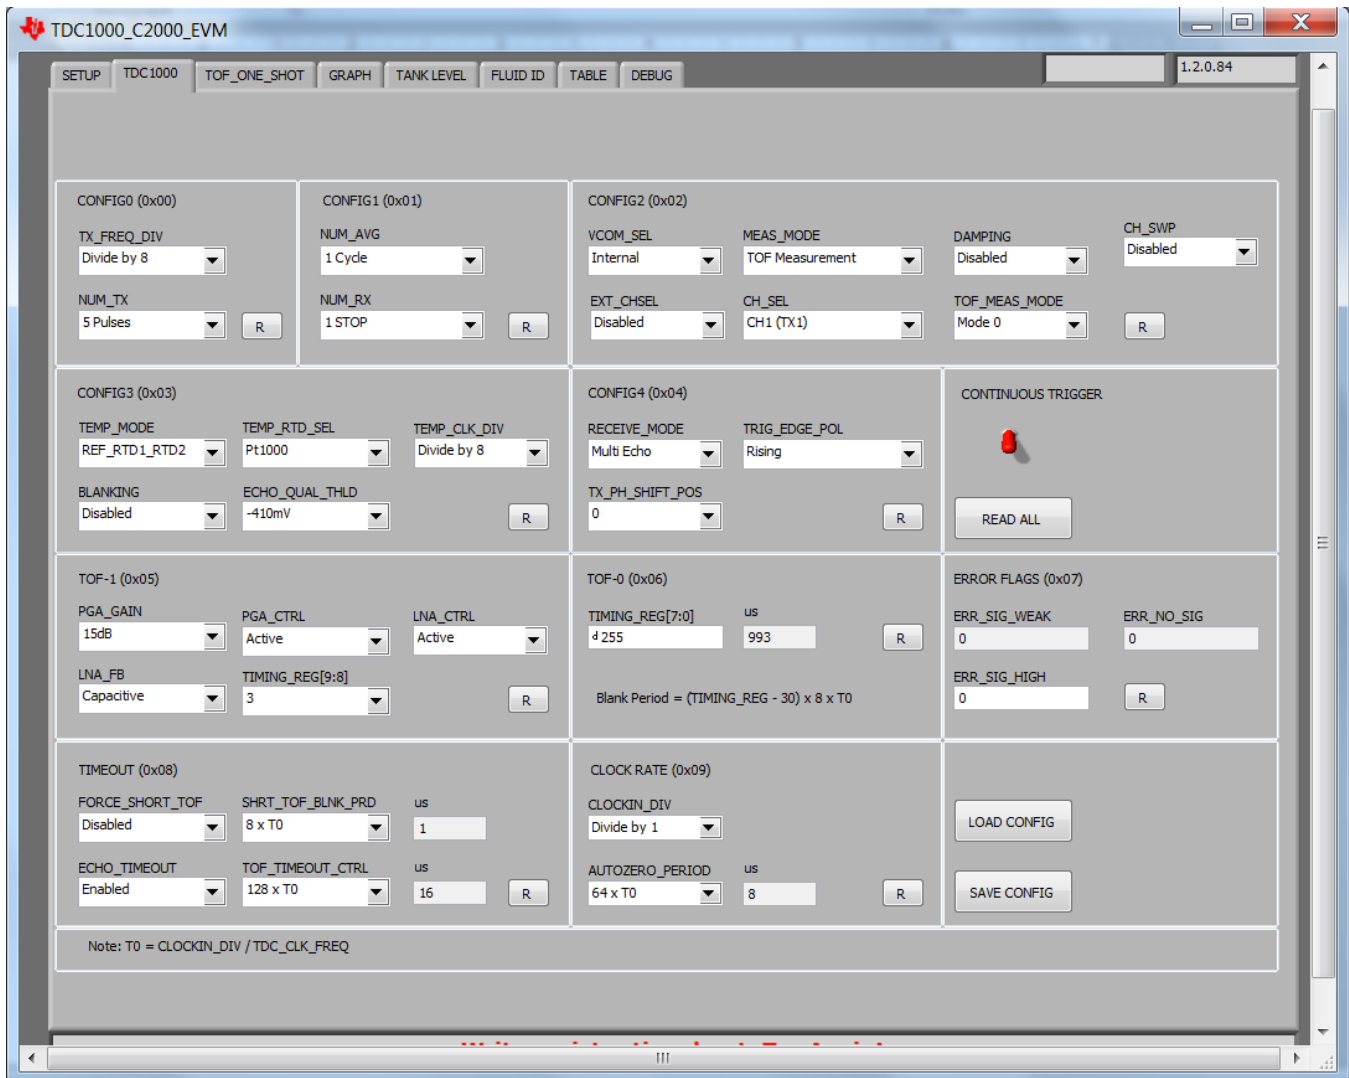

Figure 26. Final Register Settings
4. Register Configuration: See Figure 26: